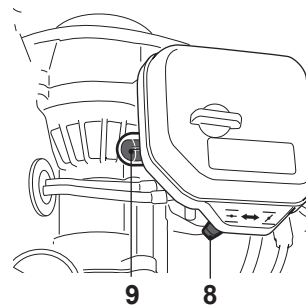

Fig. 10
- > If the engine is warm, move the choke lever (8) to the "OPEN" position , do not press the primer (Fig. 10).